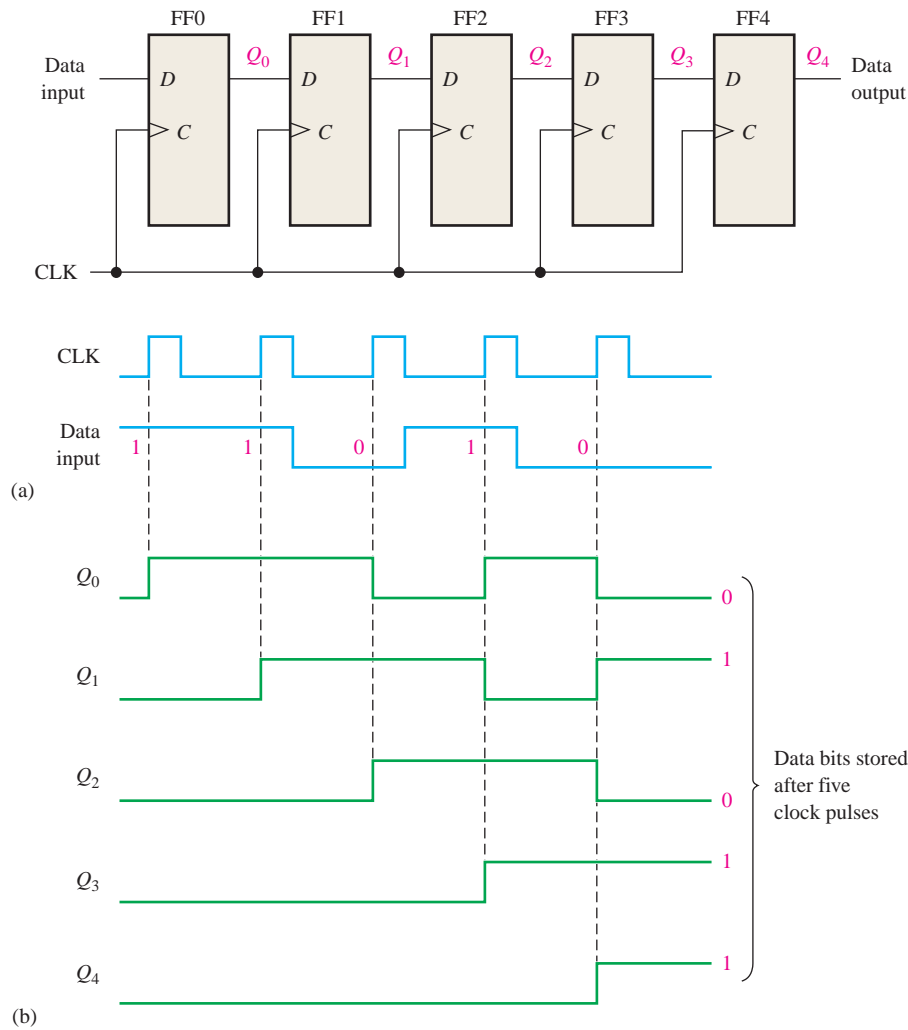

FIGURE 8-4 Open file F08-04 to verify operation. A *Multisim* tutorial is available on the website.
Show the states of the 5-bit register in Figure 8-4(a) for the specified data input and clock waveforms. Assume that the register is initially cleared (all 0s).
The first data bit (1) is entered into the register on the first clock pulse and then shifted from left to right as the remaining bits are entered and shifted. The register contains $Q_4Q_3Q_2Q_1Q_0 = 11010$ after five clock pulses. See Figure 8-4(b).